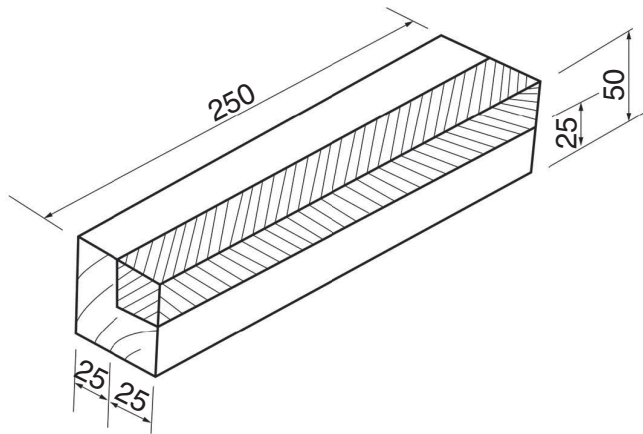

Fig. 6
- 2 (a) Fig. 6 shows a piece of wood with the waste material marked.